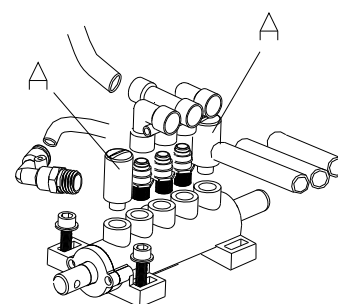

Fig 13
2. Loosen the valve mufflers (A) which belong to Jaws open and close Pedal and Bead Breaker Pedal; **(Fig 13)**
3. Clean the mufflers with compressed air, please replace it referring to the spare parts list if it is damaged. **(Fig 13)**